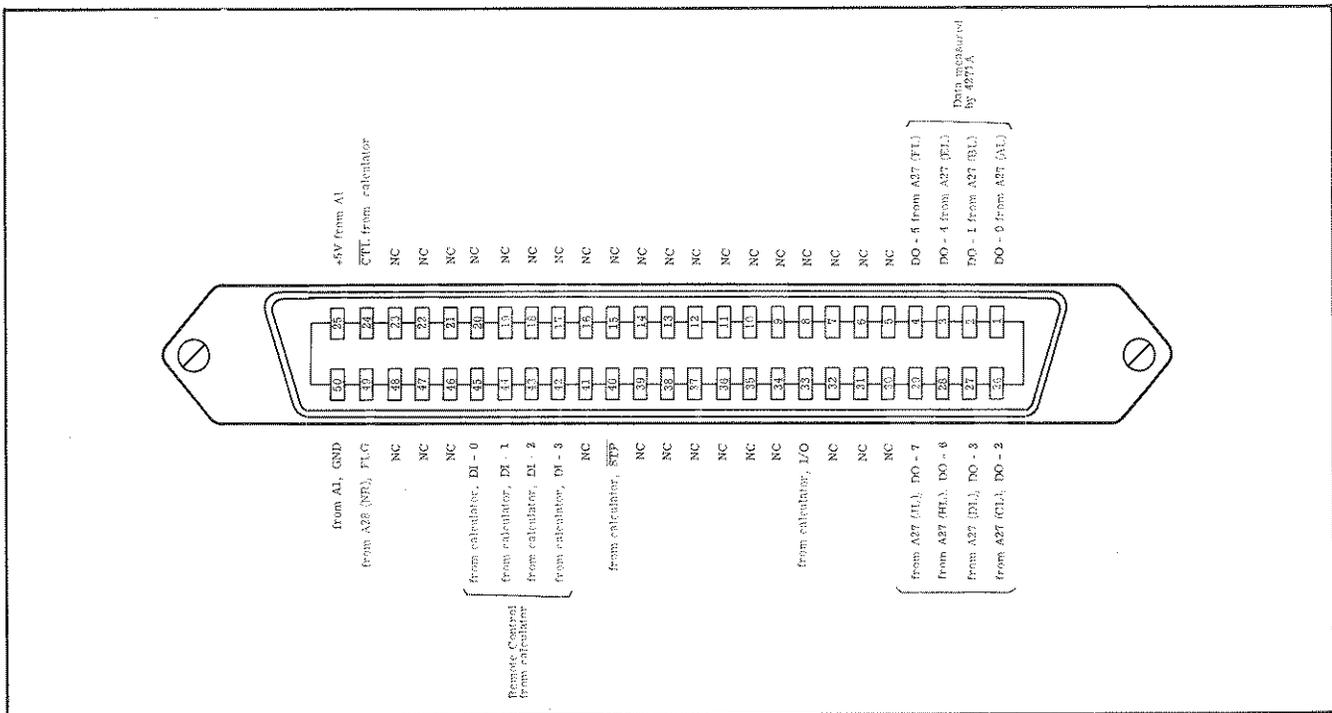

Figure 3-21. Connector Pins and Signals OPT 005.
5. Figure 3-21 shows pin numbers and signals.